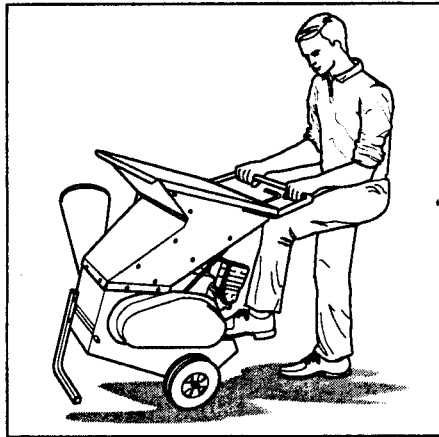

Figure 4-1: Moving the unit.
2. Grasp the handlebar with both hands and put one foot on the rear of the engine deck (Figure 4-1). Place the other foot firmly on the ground.